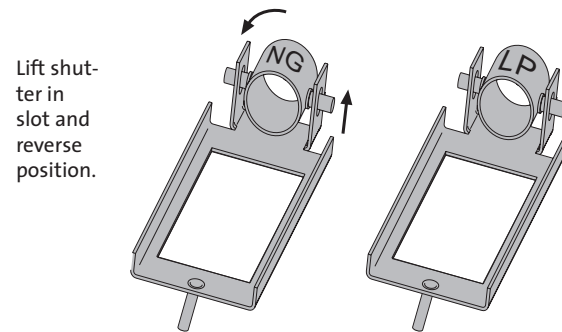

Figure 15. Changing the Air Shutter orientation.
3. Change the Air Shutter position: Lift the Air Shutter tube up in its slots to turn the tube over, so that the appropriate fuel type indicator (LP or NG) is oriented facing you. See fig. 15.